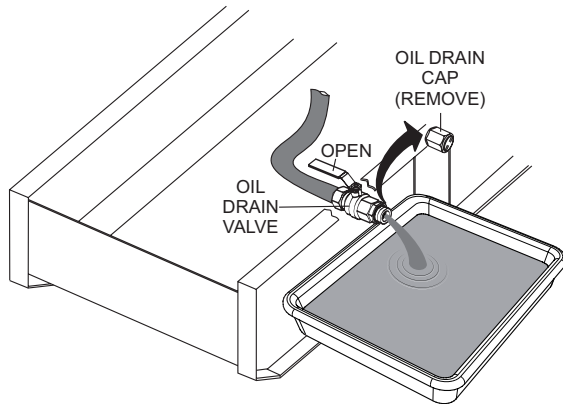

Figure 68. Draining The Engine Oil
4. Remove the **oil drain cap** (Figure 68).